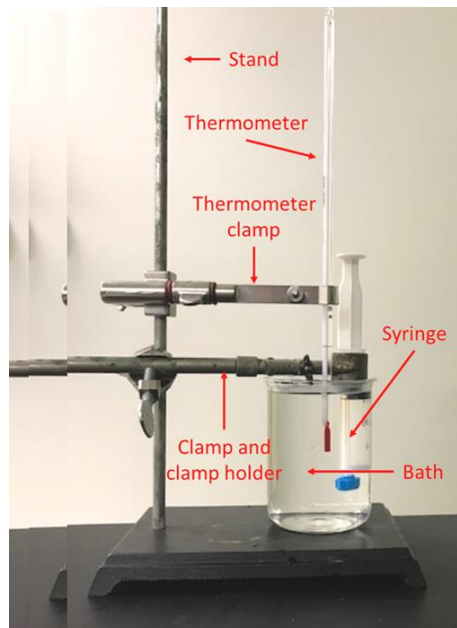

Figure 4. Bath for different temperatures
5. Assemble the setup as shown in Figure 4., except the bath. Mount the syringe right below the tabs of the syringe. Raise the thermometer and the syringe with the clamp high enough that the 400-mL beaker would fit underneath.